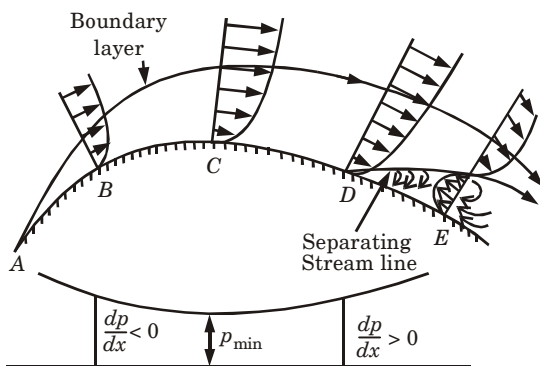

Fig. 3.29.1.
direction of flow $\left(\frac{\partial p}{\partial x} > 0\right)$ i.e., the pressure should be in increasing manner in the direction of flow (Fig. 3.29.1).
The effect of pressure gradient $\left(\frac{\partial p}{\partial x}\right)$ on boundary layer separation can be explained by considering the flow over a curved surface *ABCDE* as shown in Fig. 3.29.1.
5. As explained in the Fig. 3.29.1, the velocity of the layer adjacent to the solid surface along the length of the solid surface goes on decreasing as the kinetic energy of the layer is used to overcome the frictional resistance of the surface.